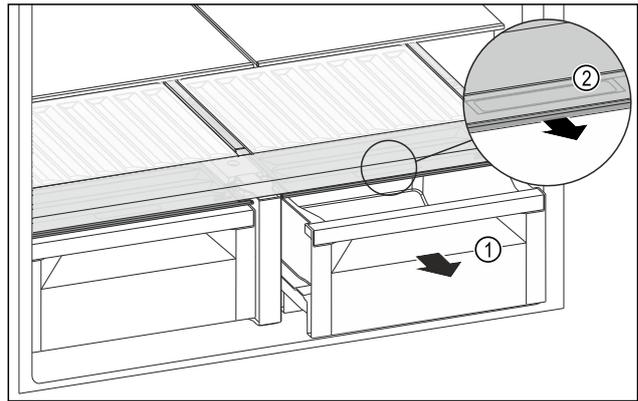

Fig. 131
- ▶ Pull out the drawer Fig. 131 (1).
- ▶ Grasp the recessed grip Fig. 131 (2) on the compartment lid and pull the compartment lid forwards at the same time.